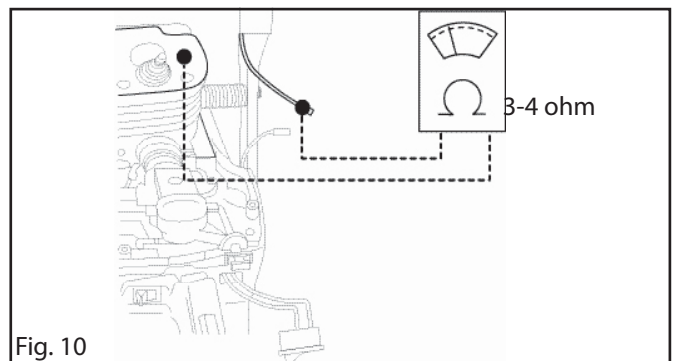

Fig. 10
5. Connect the ohmmeter as shown in fig. 10 and measure the resistance in the front handle heating element. The meter should read 3-4 Ω . If the reading is higher, replace the front hand grip.